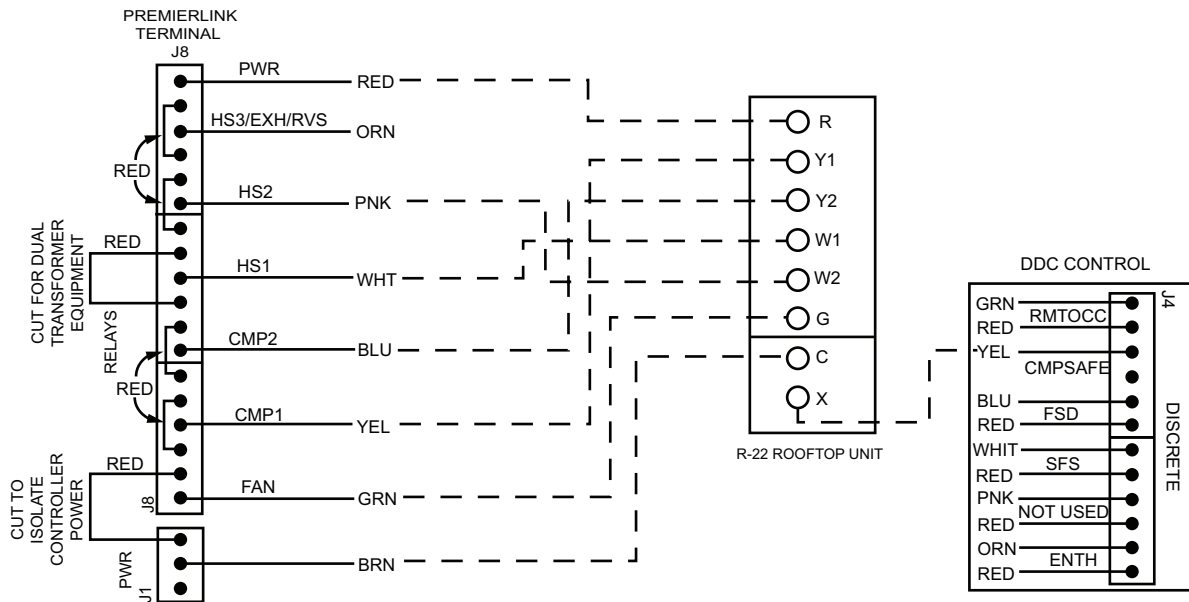

Fig. 10 — Power Exhaust Harness Installation with EconomiSer2 and PremierLink Controls
10. *Field-Installed PremierLink Control (See Fig. 10):* Connect the gray wire from the low voltage extension harness to J8-3 and the tan wire to common terminal. Common is available from PremierLink terminal J1 or the common side of the unit control power transformer (the brown leads that go to unit ground). The other end of the harness is connected to the power exhaust wiring.